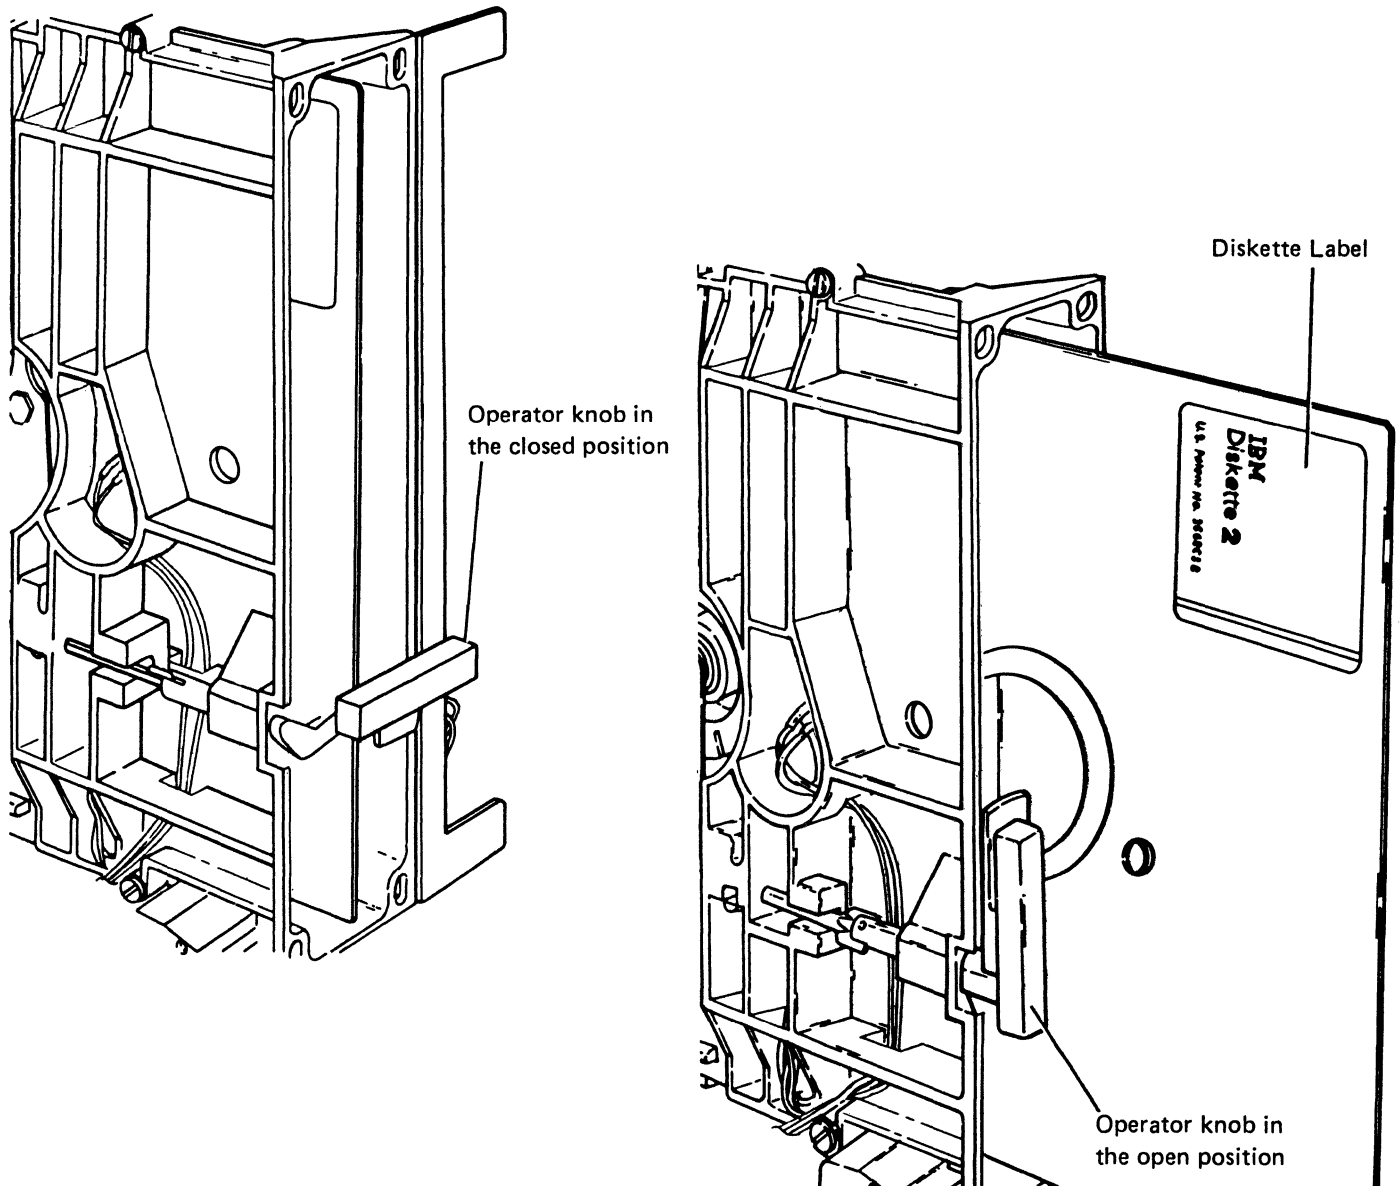

Figure E-3. Diskette Insertion
E.1.1.2 Diskette Insertion and Removal (Figure E-3)